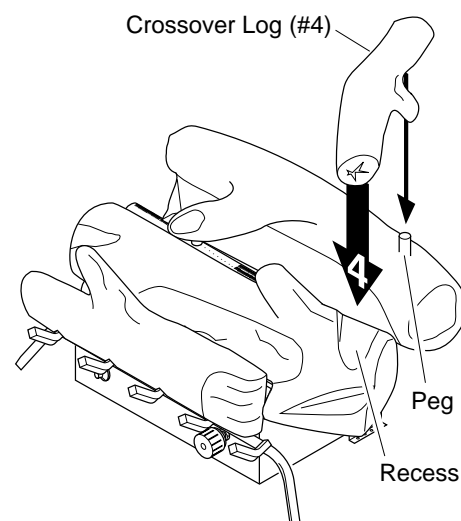

Figure 23 - Installing Crossover Log (#4)
4. Place crossover log (#4) onto the pin (right) on back log (#2) and into the recess of the middle log (#1) (see Figure 23).